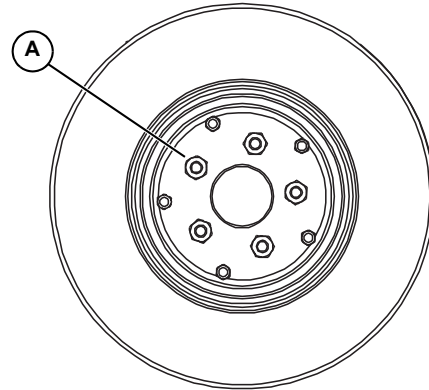

Figure 2-6. Wheel Lug Nuts
IMPORTANT NOTE: See Figure 2-6. *Wheel lug nuts are the five inner lug nuts (A), or those closest to the wheel hub.*